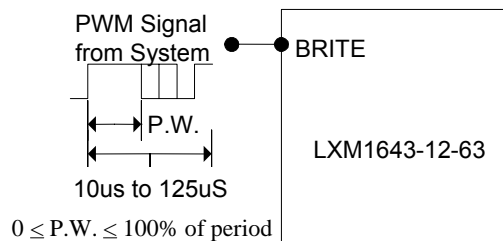

Figure 1A – PWM Brightness Control
- The brightness control may be a voltage output DAC or other voltage source, a digital pot or 20K manual pot. The inverter contains an internal 10K pull-up to 3V to bias the pot add a 1.8K resistor to set the lower threshold voltage. A 3.3V Logic Level PWM signal from a micro-controller may also be used as shown in Figure 1A.